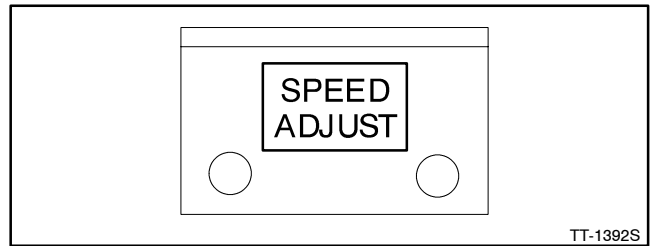

Figure 2 Bracket with Decal Attached
- 2.5 With bracket (GM30860) surfaces clean and dry attach decal (GM30862) as shown in Figure 2.